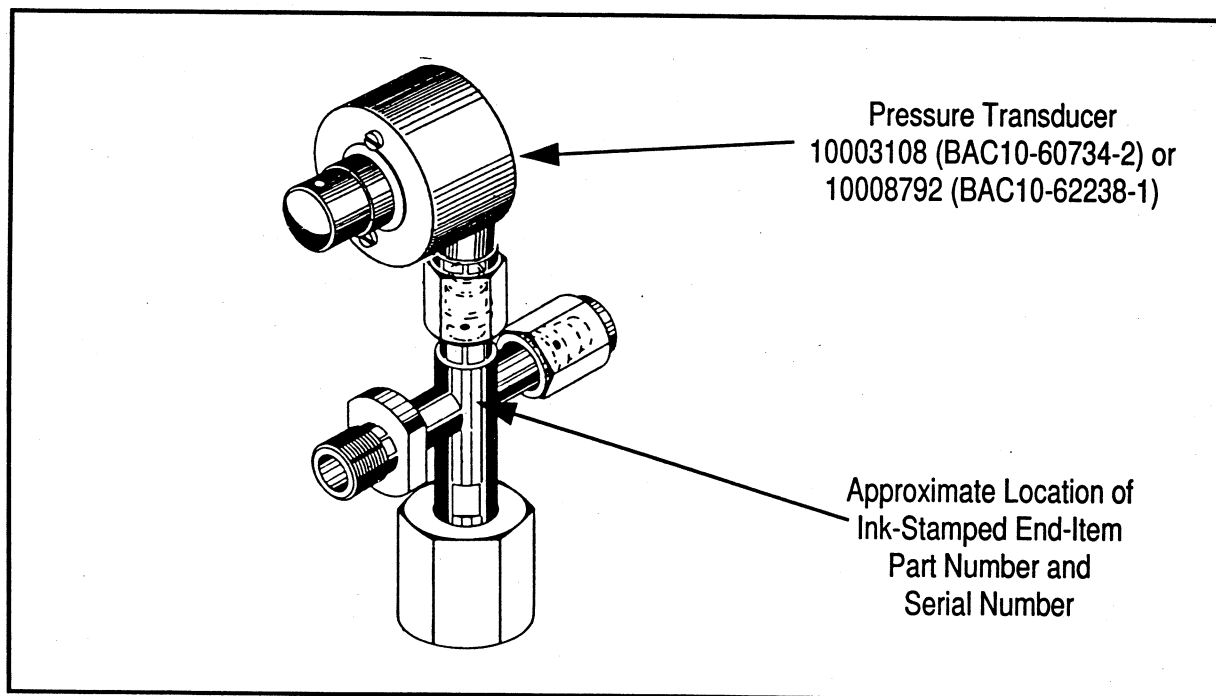

Figure 3
(3) Reidentification of 801321 Series (Refer to Figure 3)